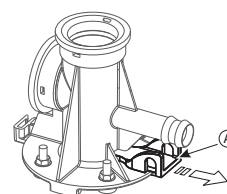

Fig. 1.a
- activate the mechanical device under the cylinder (see part A, Fig. 1.a).